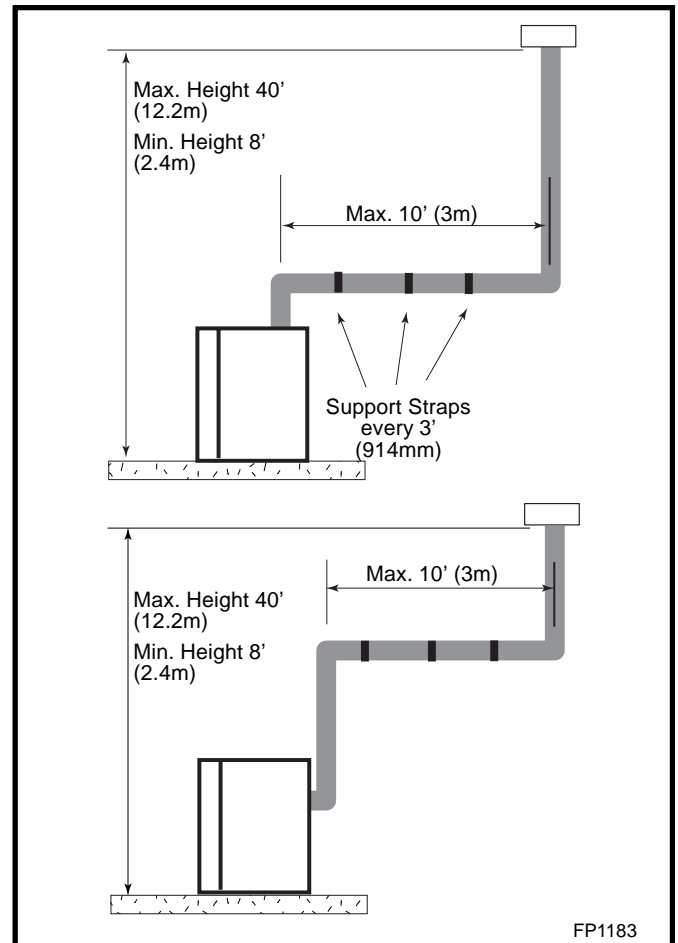

Fig. 33 Support straps for horizontal runs.
- Vertical installations up to 40' (12m) in height. Up to a 10' (3m) horizontal vent run can be installed within the vent system using a maximum of two 90° elbows. (Fig. 33)